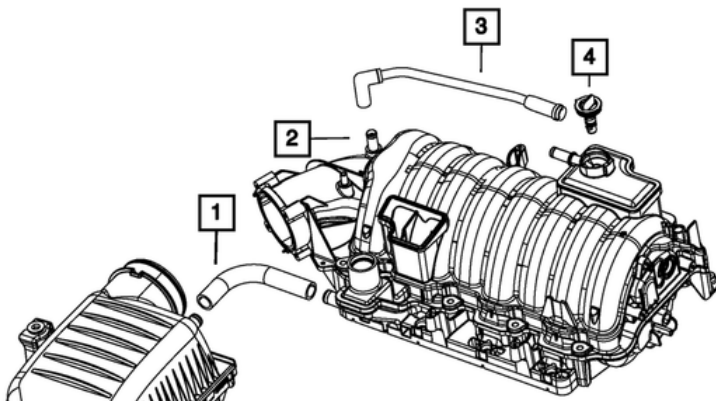

Figure 4 - Removing the Middle Section Factory PCV Hose (6.4L)
- b. For the 6.4L HEMI, this is shown as Item 3 in Figure 4.